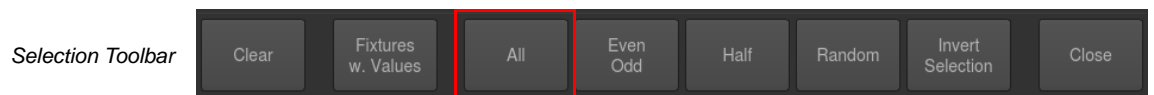

Figure 115: Selection Toolbar - Fixtures with Values
Step 3. Press the All button on the selection toolbar as shown in Figure 115 on page 67. The console will now select all fixtures of your "memorized" fixture selection.